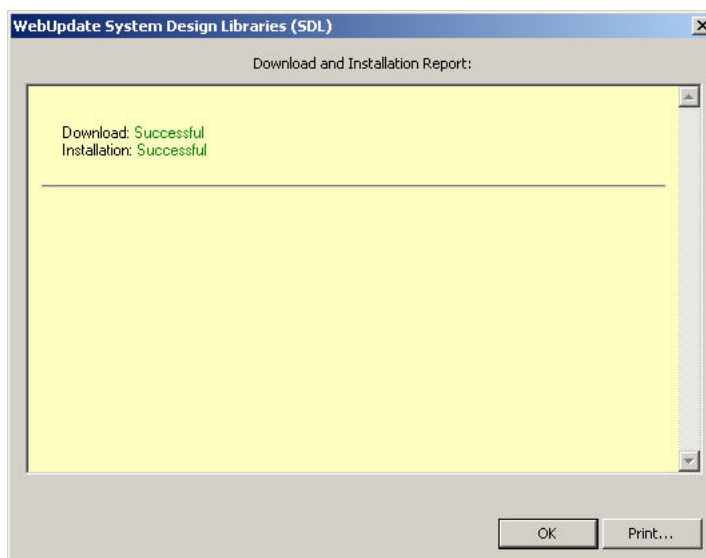

FIG. 295 WebUpdate System Design Libraries Report dialog
6. Click **Finish** to proceed. This action invokes the *WebUpdate System Design Libraries Report* dialog (FIG. 295):